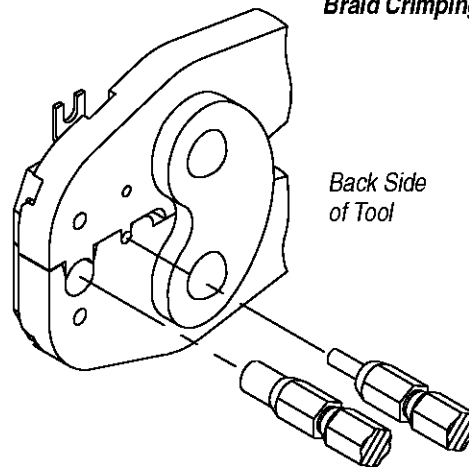

Figure 5
*Insert BRAID GAP plug gage in the crimping chamber on the FRONT ("CABLE SIDE") of tool and insert BRAID plug gage in the crimping chamber on BACK side of tool. See Figure 5.*